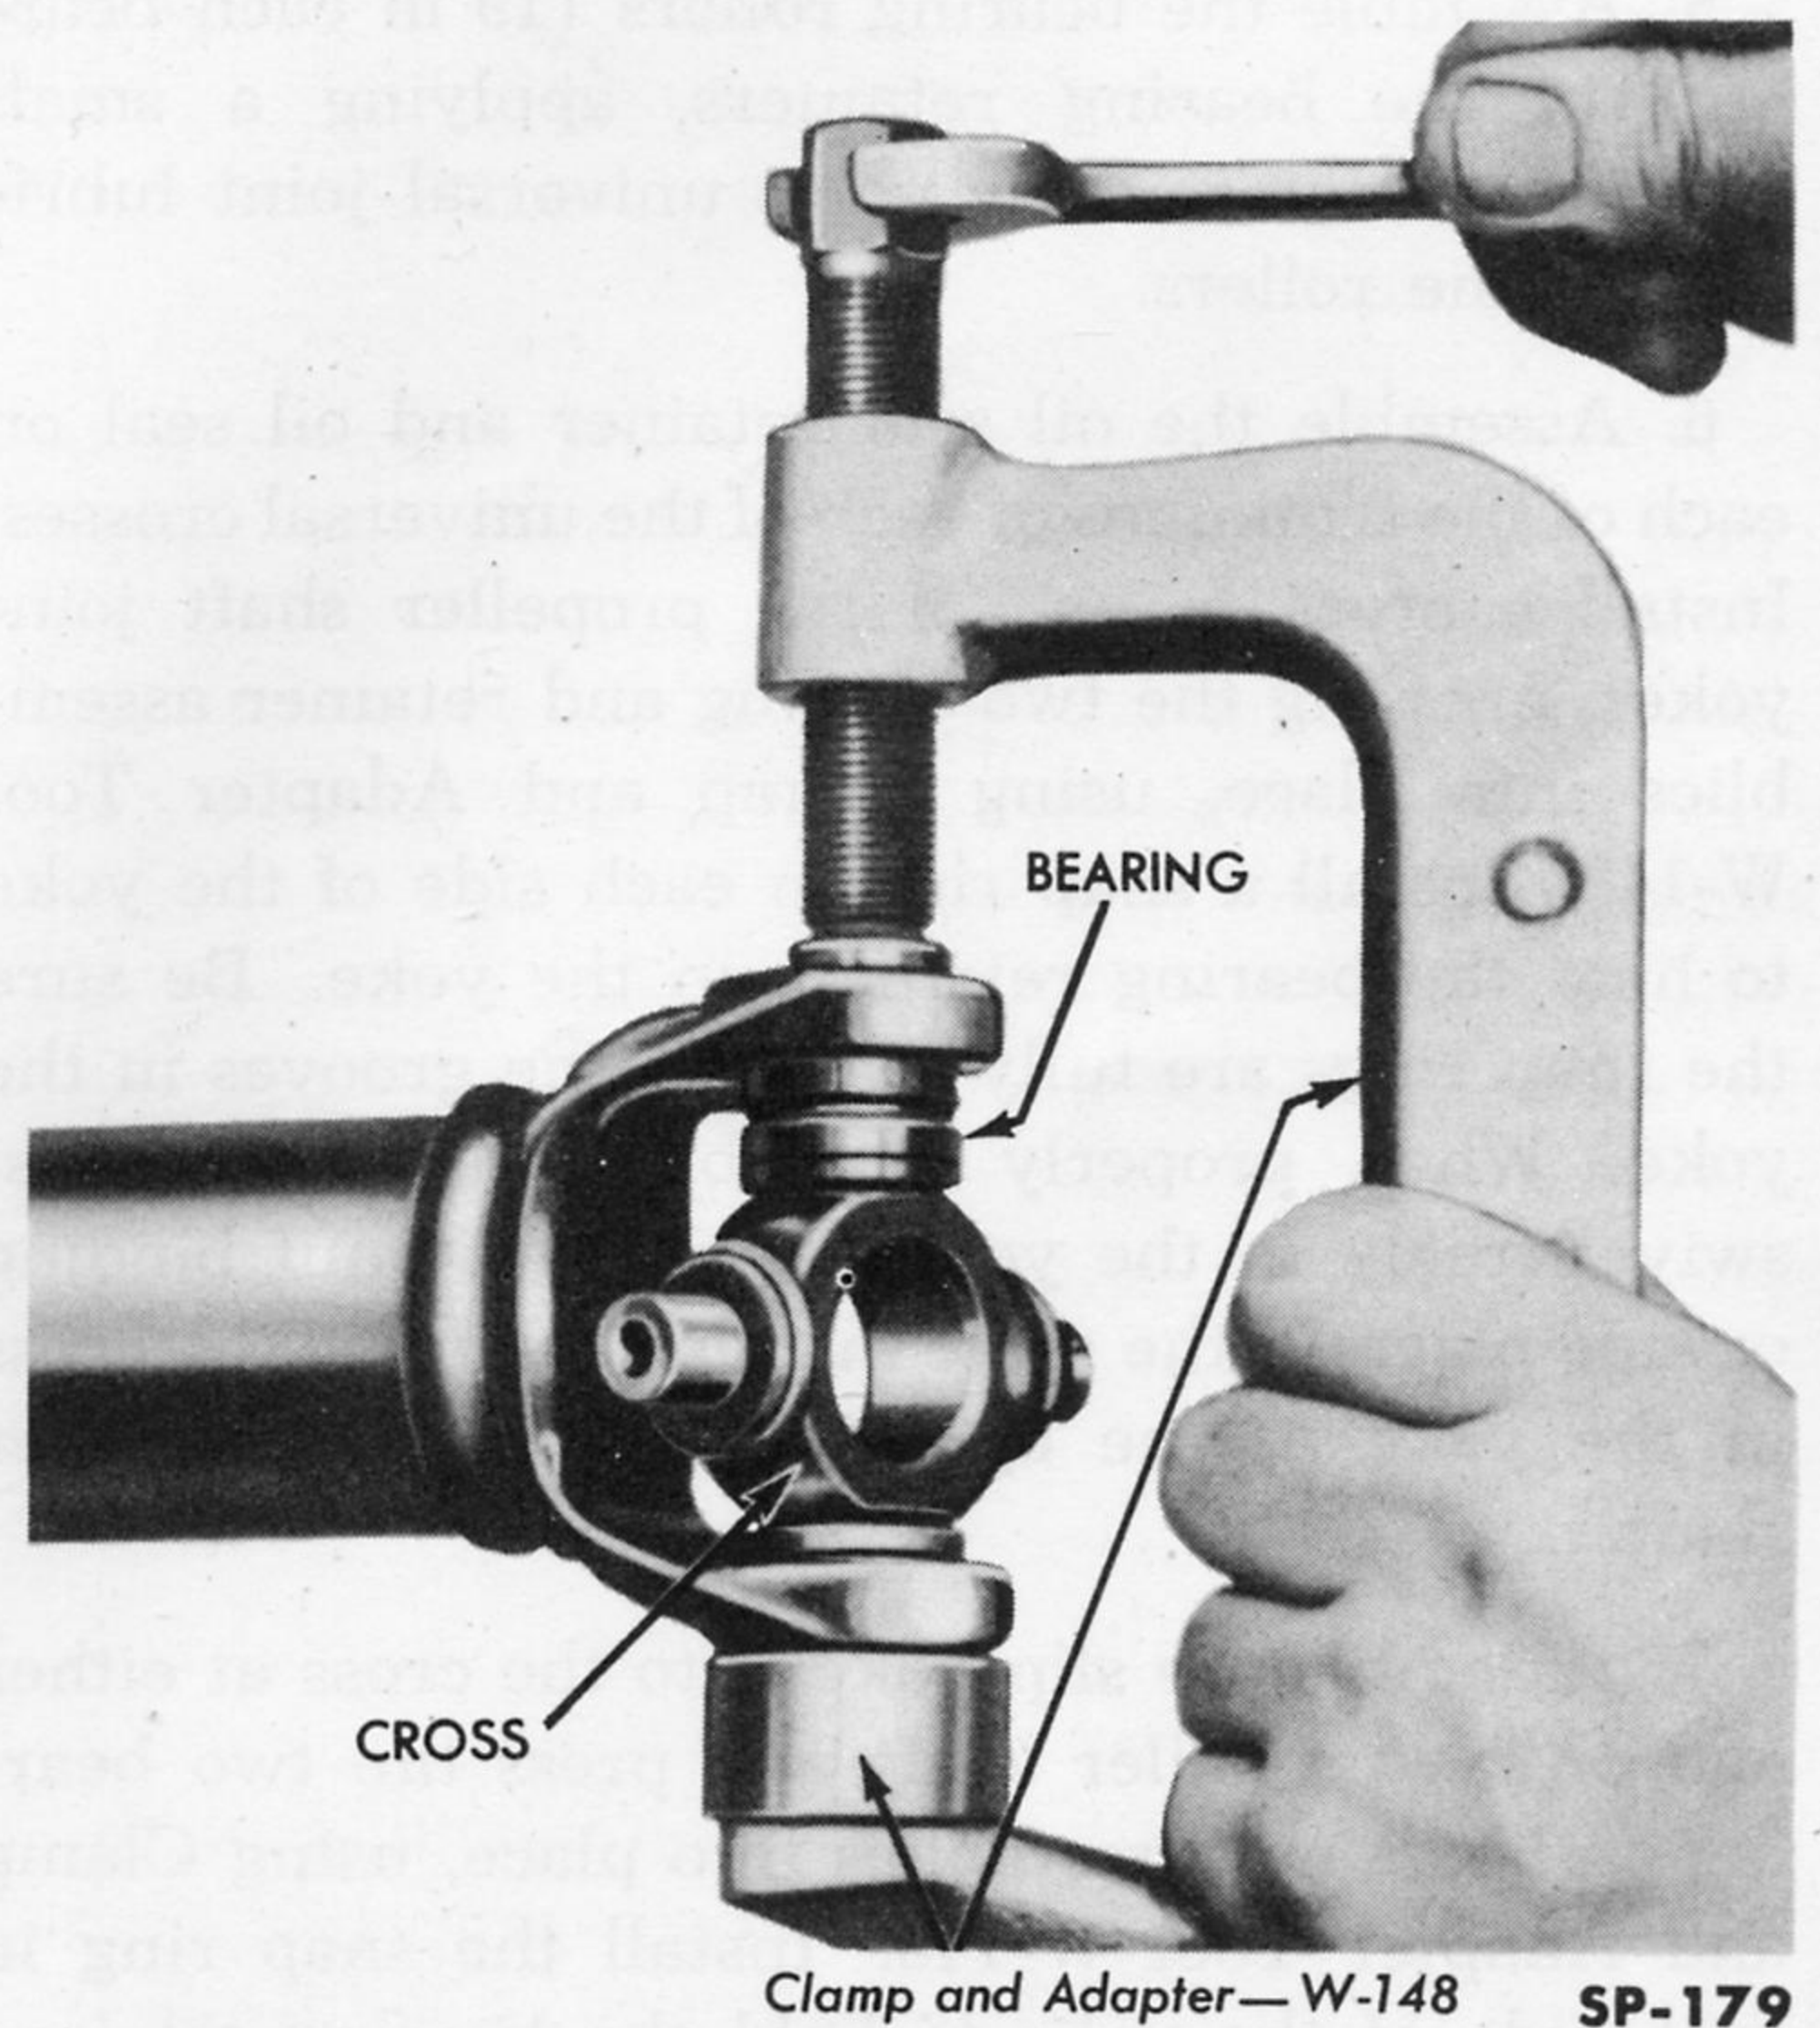

Fig. 229—Removing Cross Type Universal Joint Bearings
1. Disassemble the rear universal joint by removing the snap rings and pressing the bearing and retainer assemblies out of the yoke, using Clamp and Adapter Tool W-148 (Fig. 229). Remove the cross or spider from the yoke and the oil seals and oil seal retainers from the cross. Disassemble the front